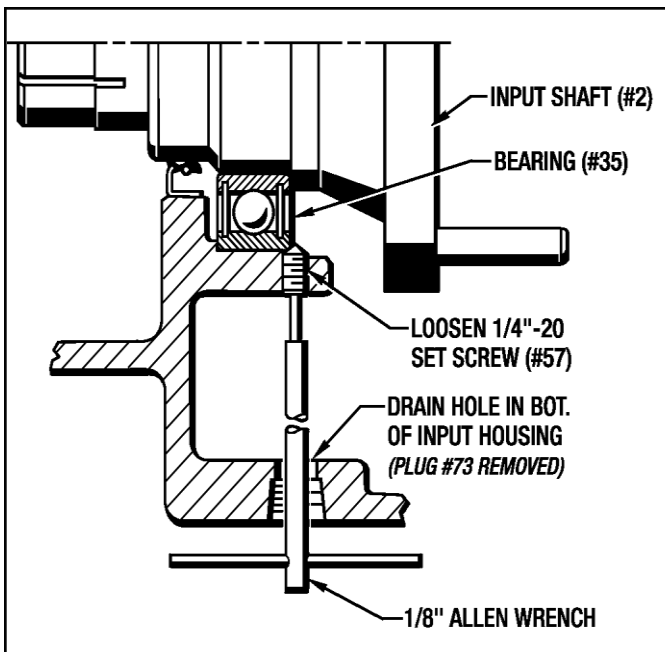

Figure 7.3 - Loosening Bearing Retainer Set Screw (#57)
- Insert an 1/8" allen wrench through the drain hole and into the 1/4"-20 Set Screw (#57). Loosen it enough to allow the Bearing (#35) to slide out of the bearing bore. (See Figure 7.3)